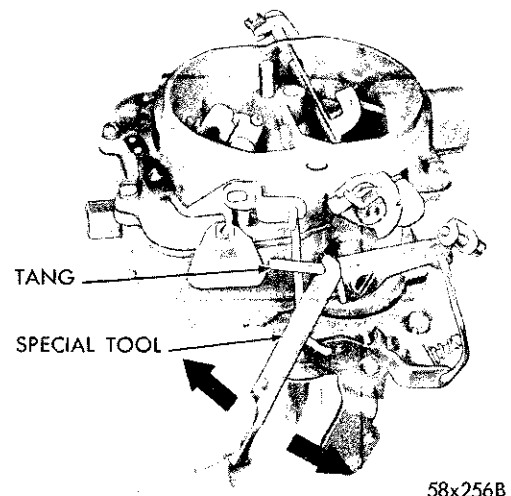

Fig. 19—Bending Fast Idle Lever Tang
(2) With a finger lightly pressing against the valve, a slight drag should be felt as gauge is being withdrawn. If an adjustment is necessary, bend the tang on the fast idle lever, using Tool T109-22, as shown in Figure 19 until correct clearance has been obtained.